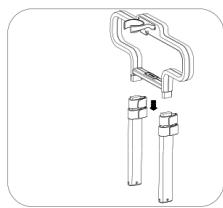

Fig. 3
- Make sure the knob tight after insert the body, Fig. 3.